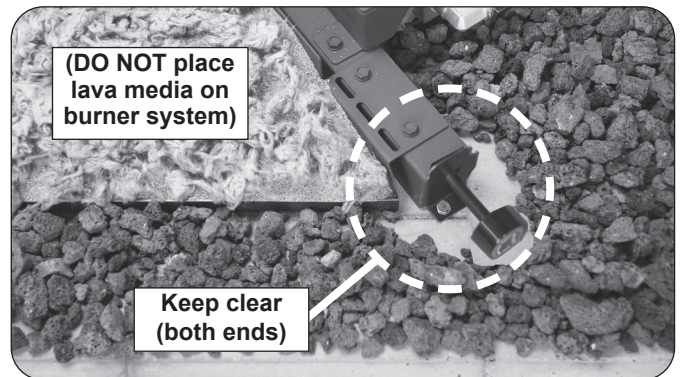

Fig. 20-2 Lava media placement detail
- **DO NOT** place any lava media on the burner system, behind it, or under the knob or igniter (at the ends of the burner). See Fig. 20-2.